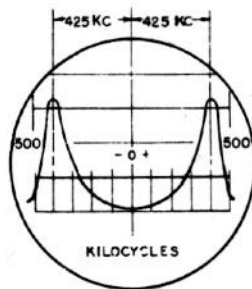
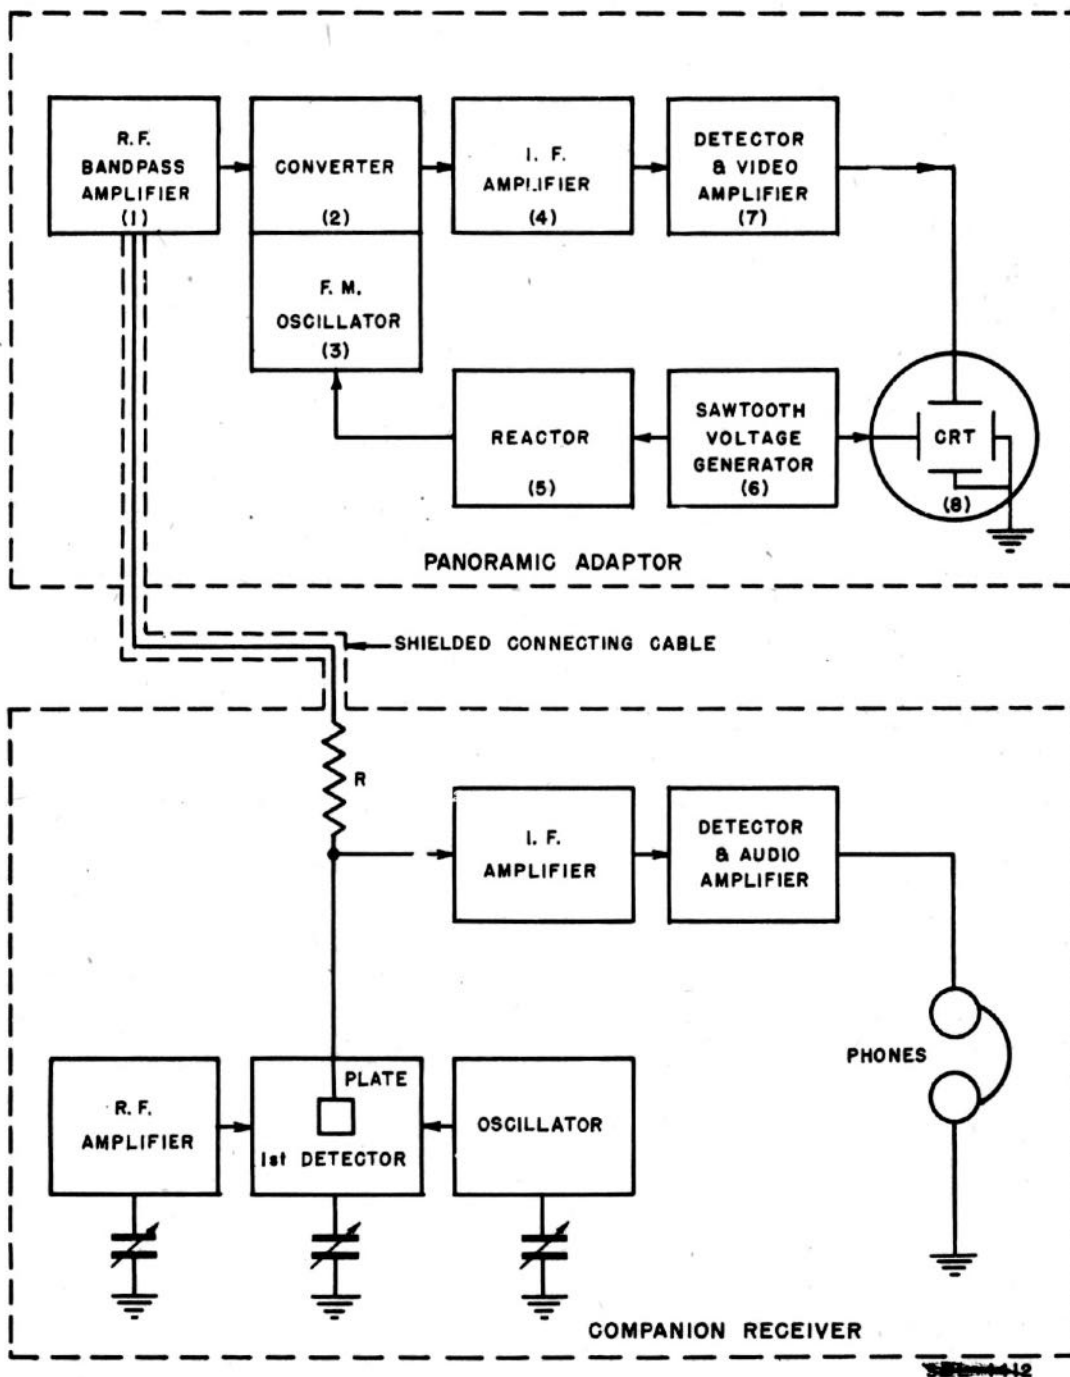

FIG. 7
FIG. 9 - BLOCK DIAGRAM
The panoramic adaptor has an input-amplifying stage with a bandpass characteristic which is inverse to that of the receiver (See Fig. 7, and 8).). That is, it amplifies where the receiver attenuates, and
- 4.03 Bandpass Amplifying Stage. Refer to Block Diagram Fig. 9, for a description of the various steps by which panoramic reception is obtained. Block marked (1) is an R.F. bandpass amplifier (Fig. 7,) which is the input stage of the panoramic adaptor, and is connected to the plate of the first detector of the receiver, through the isolating or blocking resistor "R". This blocking resistor prevents detuning of the receiver and permits the latter to operate normally.